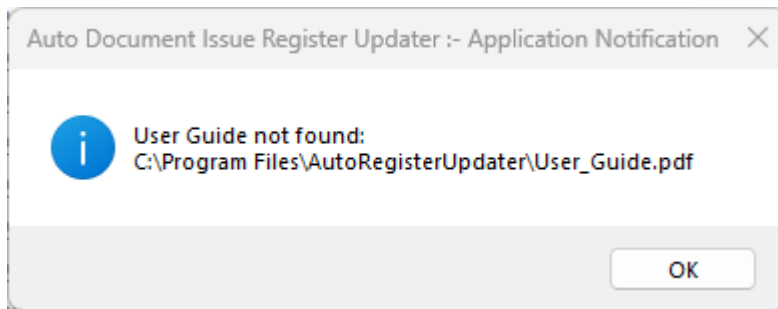

Figure 26
2. Restoring the User_Guide.pdf will prevent the above dialog as shown in figure 26 from being displayed again.